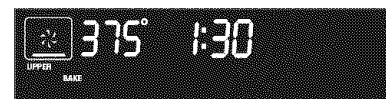

Figure 3
1. After the oven has already been set to bake at 375°F and the oven temperature needs to be changed to 425°F, press  (Figure 3) "375°" will appear, "UPPER" and "BAKE" start flashing in the display.